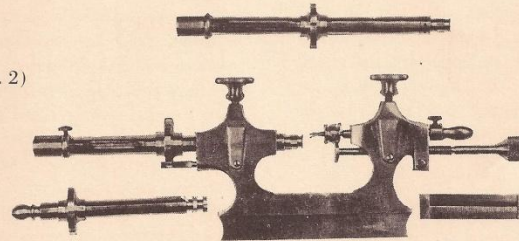

Fig. 1 — Jacot Lathe
- Jacot lathe (Fig. 1)
The position in which the motion is the greatest will show a losing rate compared to the other horizontal position. This error can be quickly and easily corrected by the use of the Dorrington pivot polisher or Jacot lathe shown in Figs. 1 and 2.